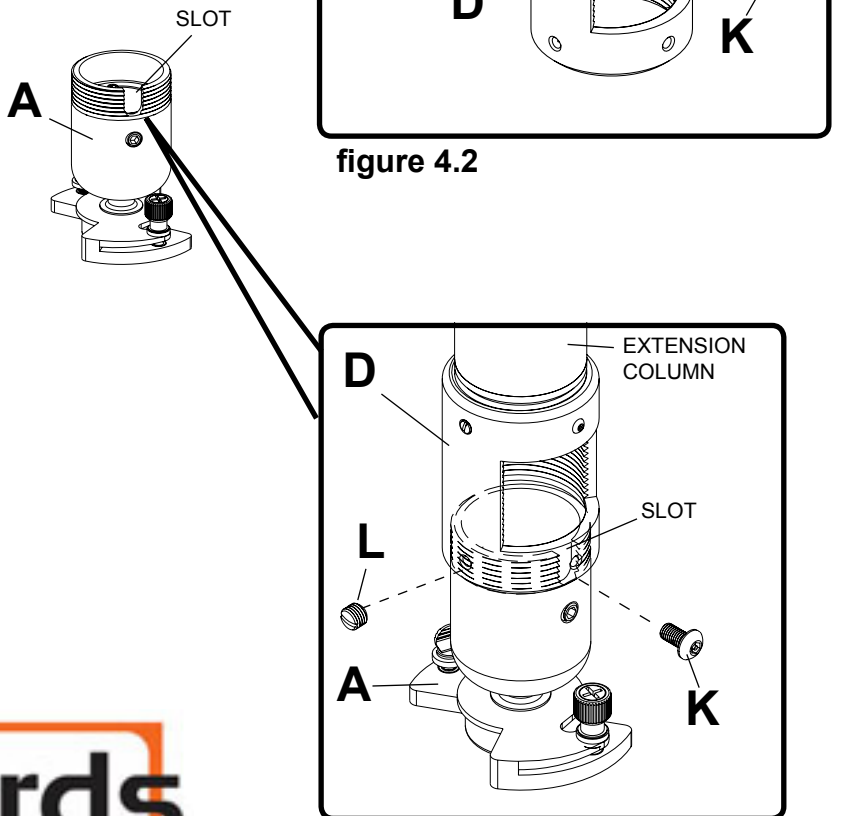

figure 4.3
Screw ball and socket mount (A) to extension column connector (D). Align slot in ball and socket mount (A) to one of the bottom holes in extension column connector (D). Insert and tighten one #10-32 x 3/8" socket pin screw (K) through extension column connector into slot in ball and socket mount (A) using security allen wrench (U). See figure 4.3